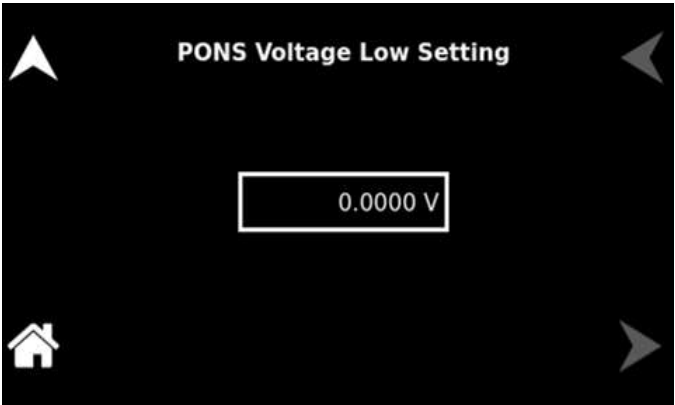

Figure 9-122. PONS Voltage Low Settings
**PONS Voltage Low Limit** Users can set the voltage low limit value, and it regulates upon reaching the Voltage Low Limit. Refer to Figure 9-122.